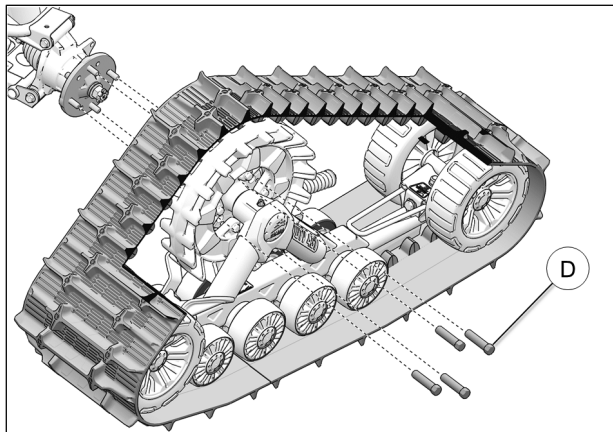

Fig. 12
13. Secure undercarriage to rear hub using the provided wheel nuts (D). See Fig. 12
6. Using the wheel nuts (D) provided, secure undercarriages to front wheel hubs. The procedure and precautions are the same as for rear units. Refer to Fig. 12